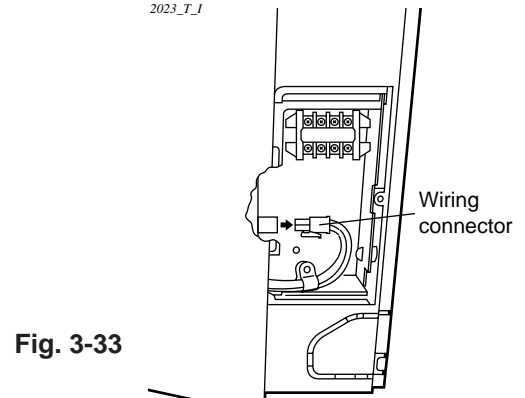

Fig. 3-33
- (3) Disconnect the wiring connector. (Fig. 3-33)